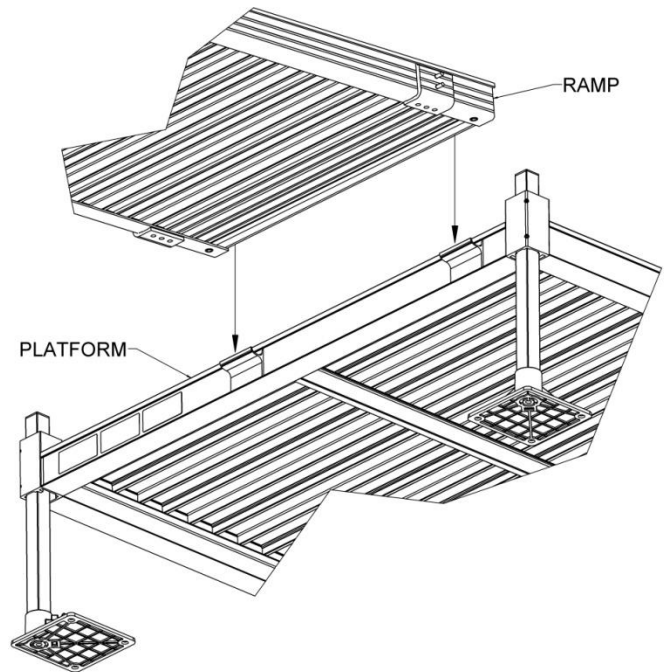

FIG. 3.4
- 3.2.4. Set the ramp on the hangers. The hangers should be positioned as close as possible to the ramp side rails. The procedure is the same at both the top and bottom of ramp runs which end at a platform unless a transition plate is used (FIG. 3.4).